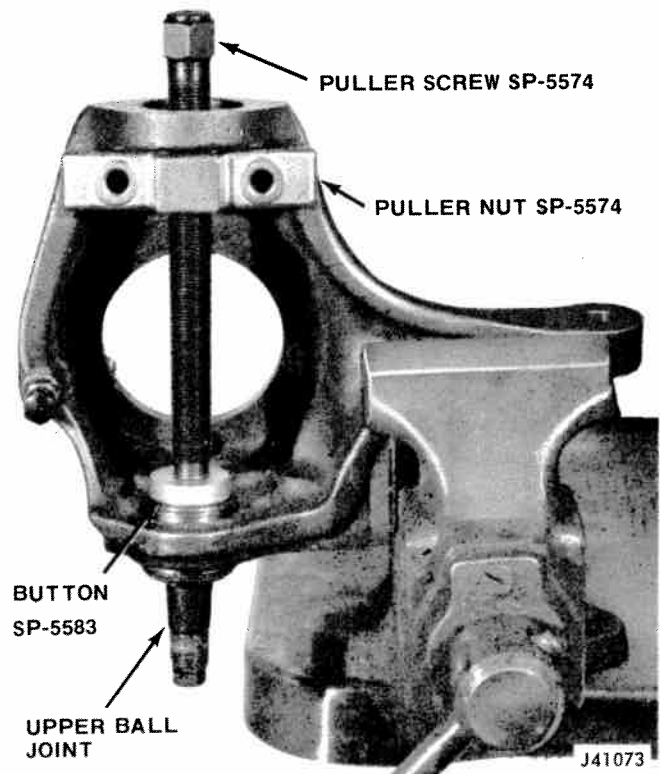

Fig. 10-7 Upper Ball Joint Removal
(4) Disassemble Puller SP-5574. On CJ-5 and CJ-6 install Adapter SP-5584 on puller screw with adapter shoulder toward head of screw. Thread puller nut about halfway onto screw. Place Button SP-5583 on upper joint and install puller in knuckle (fig. 10-7). Tighten screw to remove upper ball joint.